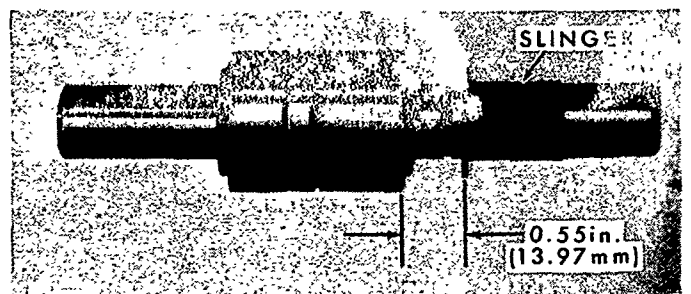

Figure 85
2. Check the individual parts of the bearing shaft and slinger assembly for nicks, scores, or other damage, and the slinger for correct position on the shaft, Figure 85. If the bearing and shaft are undamaged and the slinger is damaged or incorrectly positioned, remove it using care not to damage the shaft.
- sleeve slightly larger than the bearing shaft, press a new slinger onto the shaft. Press the slinger to the dimension shown in Figure 85.